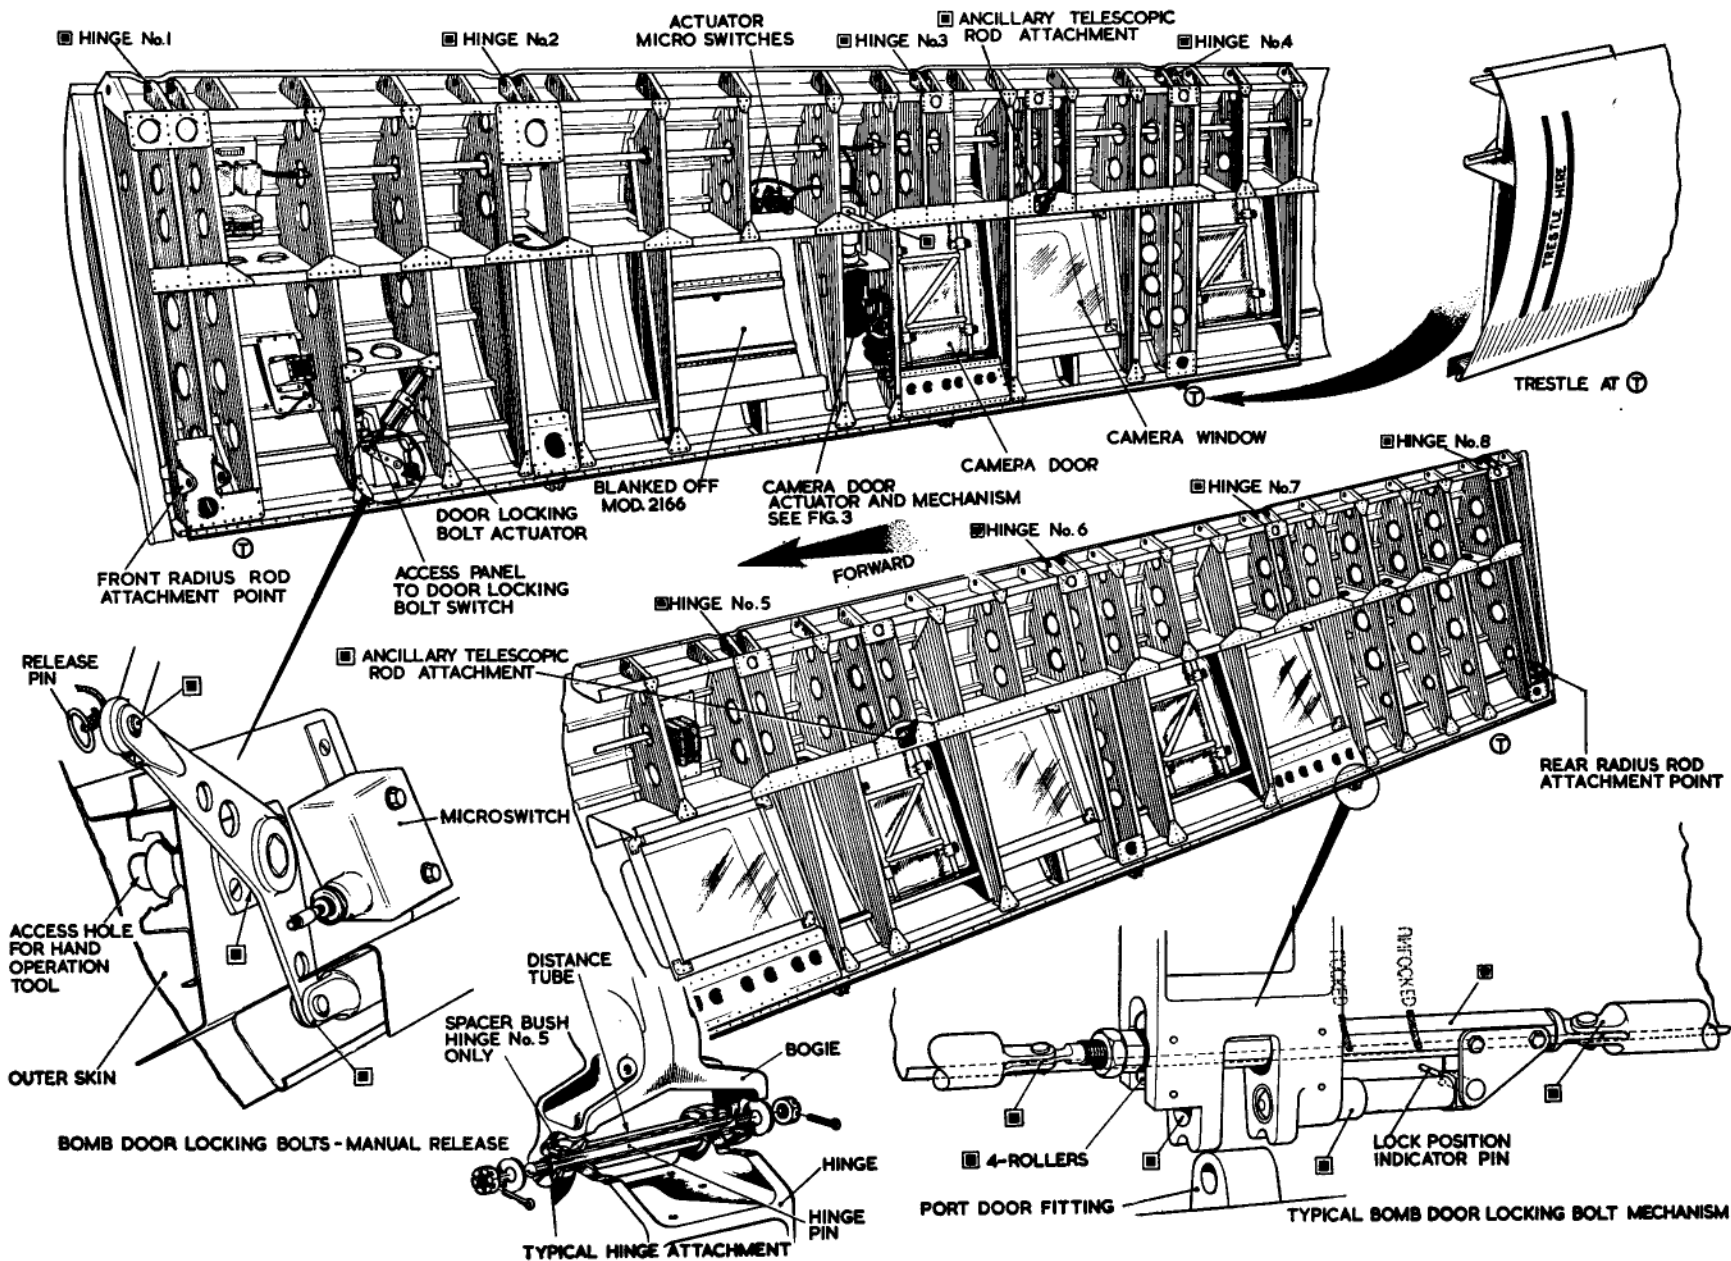

Fig. 2. Starboard door, P.R. role
(1) Before offering up the P.R. type bomb-bay doors, remove the optical flats (*if fitted*) and store carefully to avoid damage. Position trestles under the bomb-bay port side and offer up the port bomb door (*item 9*).
(2) Offer up the door to the bogie fittings. Position the distance tubes and fit the pins, securing with nuts and washers at each end; lock with split pins (*fig. 2*).
*Two spacer bushes (item 11) must be fitted at No. 5 hinge attachment (fig. 2).*
(12) Connect the electrical plugs to the sockets on the port front radius rod (Sect. 5, Chap. 8, Group 5) and motorized bogies.
(13) Select NORMAL on the BOMB DOOR CONTROL TRIP SWITCH, and bomb doors OPEN on the external supply panel switch; the port door will then rise to the "open" position.
(14) Select ISOLATE on the PORT BOMB DOOR ISOL SWITCH and TRIP on the BOMB DOOR CONTROL TRIP SWITCH.
(15) Repeat operations (8) to (12) on the starboard bomb-bay door.
(16) Set both ISOL SWITCHES and the TRIP SWITCH to NORMAL. The closing sequence for the P.R. type doors differs from that of the bomber in that the starboard door closes first, followed by the port door and then the deflector. As the starboard door is already closed, the port door will begin to lower to the closed position. Inch this door down slowly by selecting CLOSED and switch OFF when the door is about two or three inches from fully closed, leaving the deflector up.
- (17) Sight along the doors for alignment. Any necessary adjustment must be made on the port door ancillary telescopic tie-rod lower attachments.
- (18) The motorized bogies may not fully close the doors from this position, therefore, door OPEN must be selected. When the doors are fully open, reselect doors CLOSED and allow them to fully close.
- (19) The P.R. bomb-bay doors are locked in the closed position by three bolts on the starboard door, interconnected by operating rods, engaging three fittings on the port door. The three bolts are operated by an actuator on the starboard door front end. Control of the actuator is by a switch, access to which is gained through a spring-loaded panel in the door skin (fig. 2).
- (20) The door lock bolts must be adjusted as follows:—
- (21) The door lock OPEN microswitch must be adjusted by loosening the locknut, adjusting the operating bolt so that the microswitch operates over the last